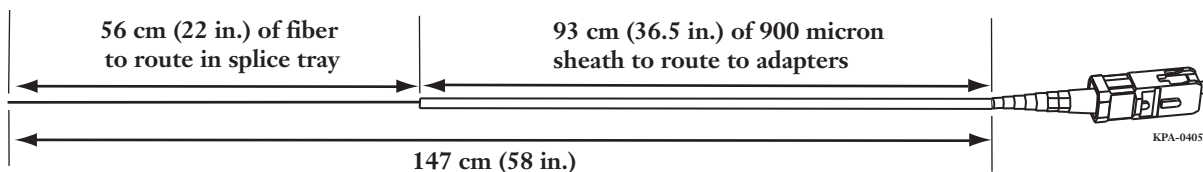

Figure 33
**Step 2:** Use the Buffer Splitting Tool (p/n 3206001-01) to remove the jacket from the pigtail according to the instructions provided with the tool (Figure 33).